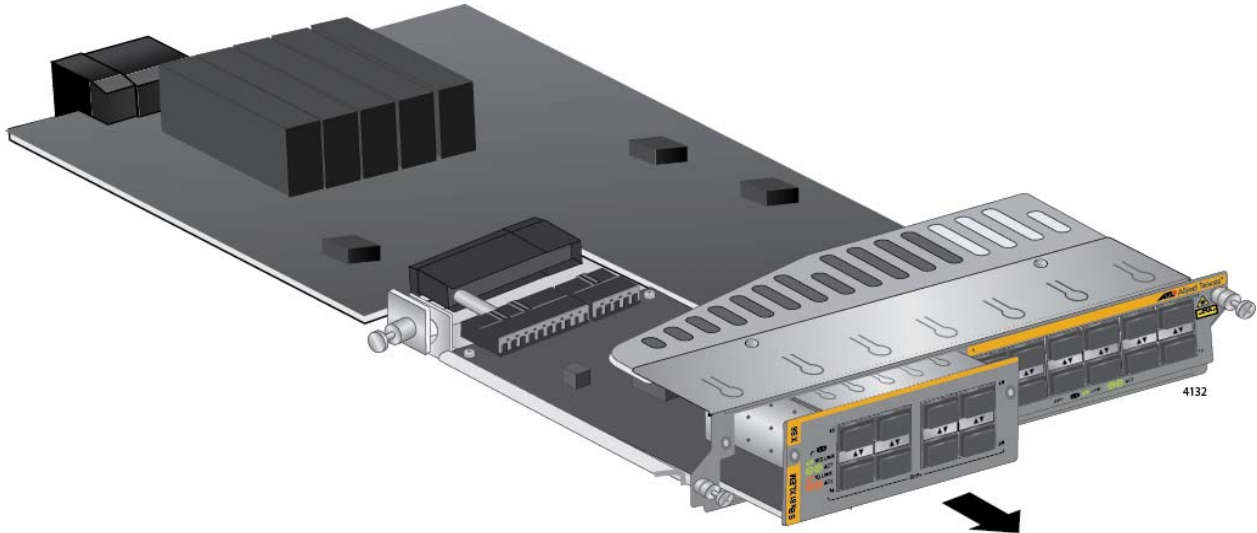

Figure 174. Sliding the Expansion Module from the AT-SBx81XLEM Line Card
6. Slide the expansion module from the line card. Refer to Figure 174 on page 275.